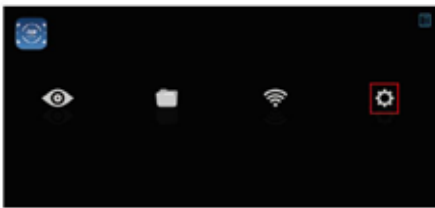

Figure 1
- 4 When there are multiple network cameras in the same local area network, click the icon  in the navigation interface (Figure 1), pop-up menu (Figure 2). The list automatically shows all cameras in the current local area network (Figure 3), select a camera as needed and switch between cameras at any time.